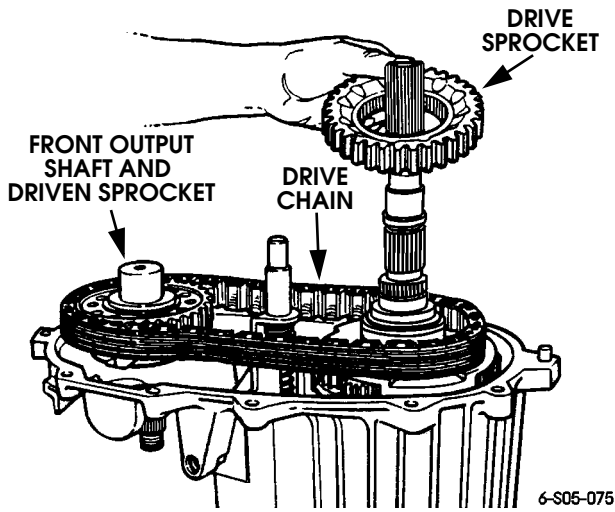

Figure 5-159: Drive Chain and Sprocket Installation
- 25. Install front output shaft and driven sprocket. Then install drive chain (Figure 5-159).
- 26. Install drive sprocket. Slide sprocket down onto mainshaft. Engage sprocket in chain and work it onto mainshaft splines (Figure 5-159).